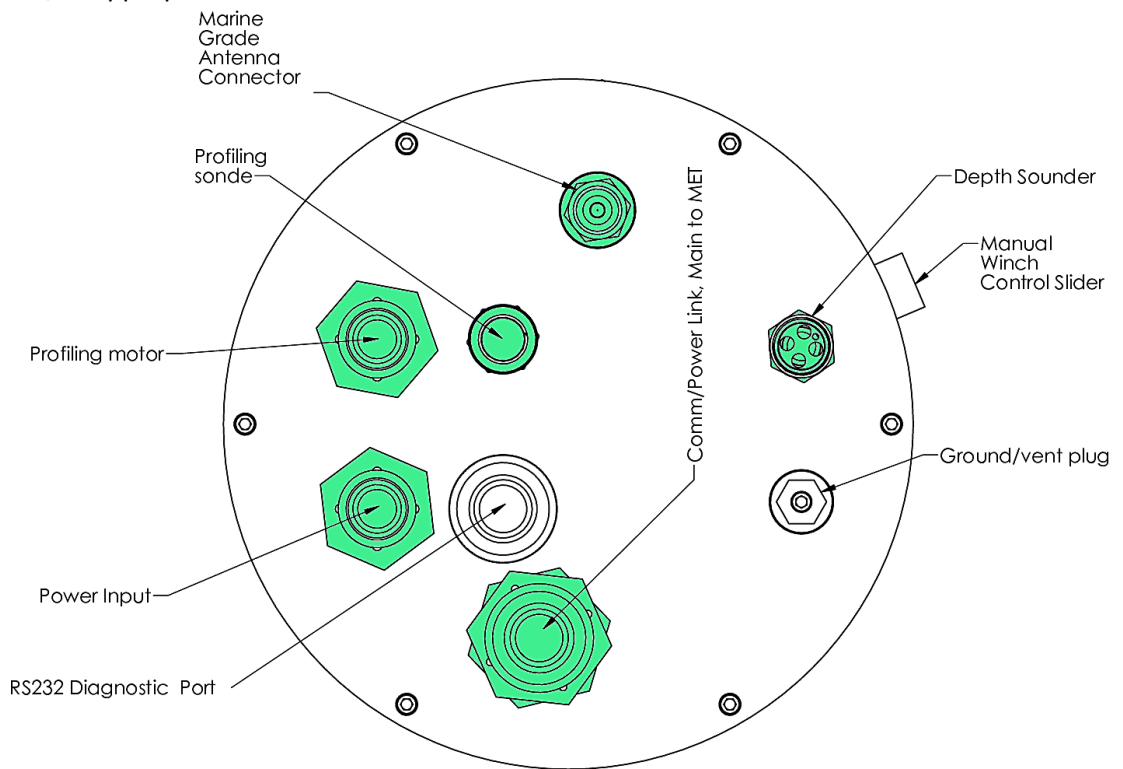
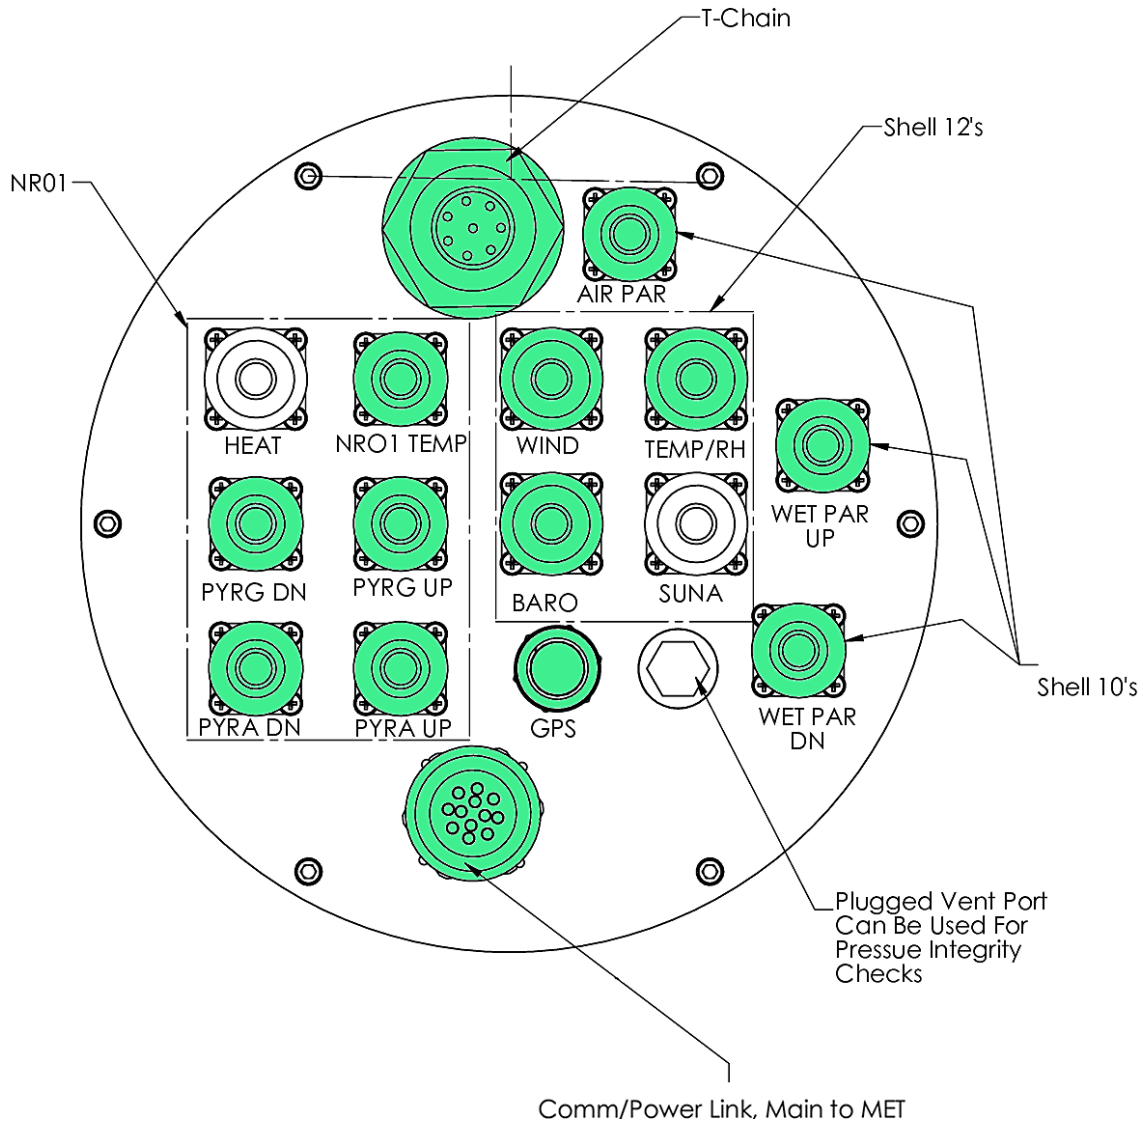

Figure 10. Profile Canister Port Mapping
Figure 11. MET Canister Port Mapping
- c. See Figure 10 and Figure 11 for the AIS Lake Buoy port mapping.